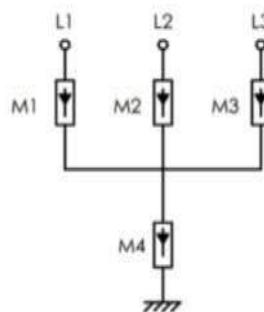

Fig. 4-27 LV side winding of the transformer
- o Surge protective devices (SPD) for the AC combiner box and on the LV side of the transformer are recommended to be connected in the "3+1" manner, as shown in the figure below (Fig. 4-27). The Min. continuous operating voltages of M1-M4 are 750 Vac.